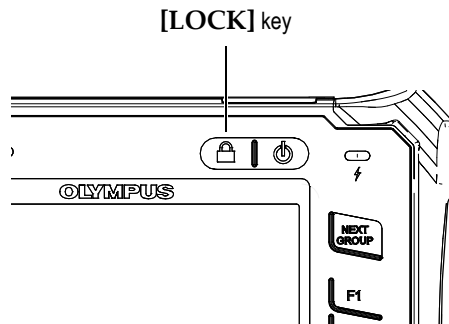

Figure 2-7 Adjustment knob configuration – **[LOCK]** key
- The **[LOCK]** key (knob configuration only) automatically locks adjustment of all parameters to prevent any unwanted parameter modifications due to an accidental movement of the knob (see Figure 2-7 on page 40).